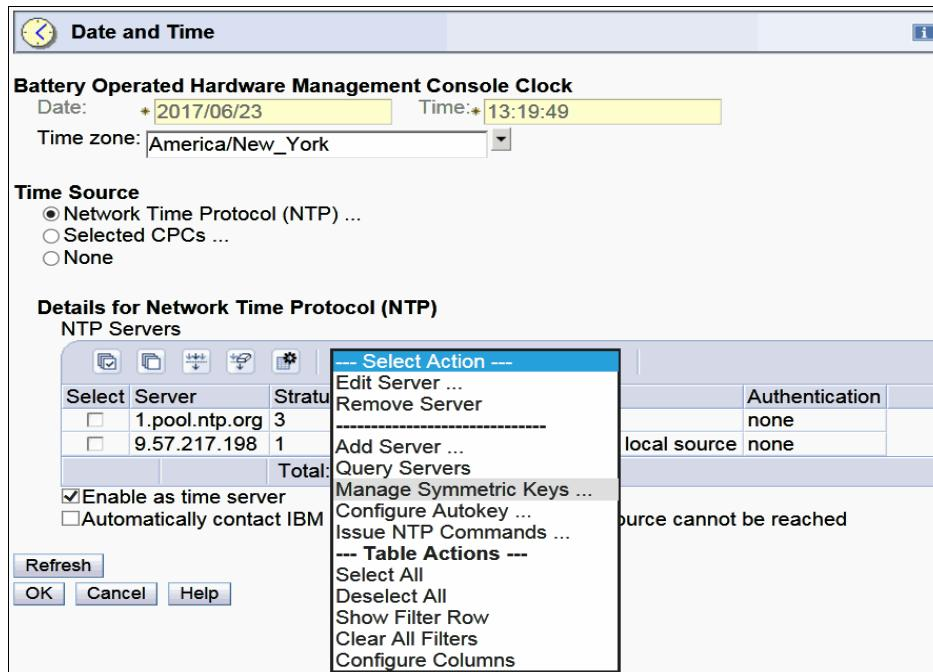

Figure 8-12 Manage Symmetric keys
2. Select **Manage Symmetric keys** from the **Select Action** list in Details for Network Time Protocol (NTP), as shown in Figure 8-12.
12. You are returned to the **Date and Time** window (Figure 8-12 on page 172). Make sure the key that you selected is displayed in the Authentication column and the Status is Success, and the key that you specified is displayed.